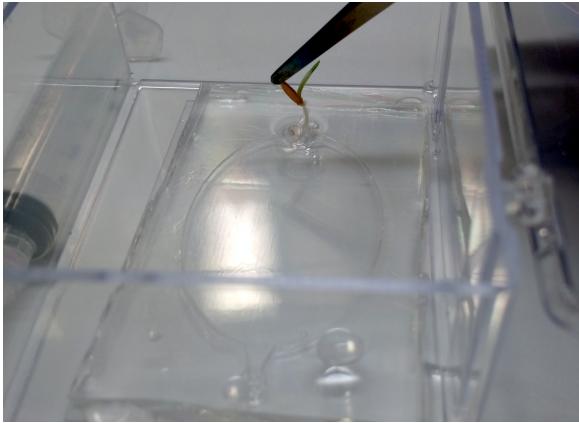

Figure 3-3. Using tweezers to carefully insert root end of seedling into the plant reservoir. Be careful not to damage the root or shoot.
- 3. Transfer the seedlings:** use sterilized tweezers, and grab the seedlings gently by the seed (as shown in Figure 3-3). Gently insert the root into the plant reservoir, such that most of the root is submerged in the growth medium. In total, 12 seedlings are transferred (4 each for 5MS+P, 0.5MS-P, and soil extract).